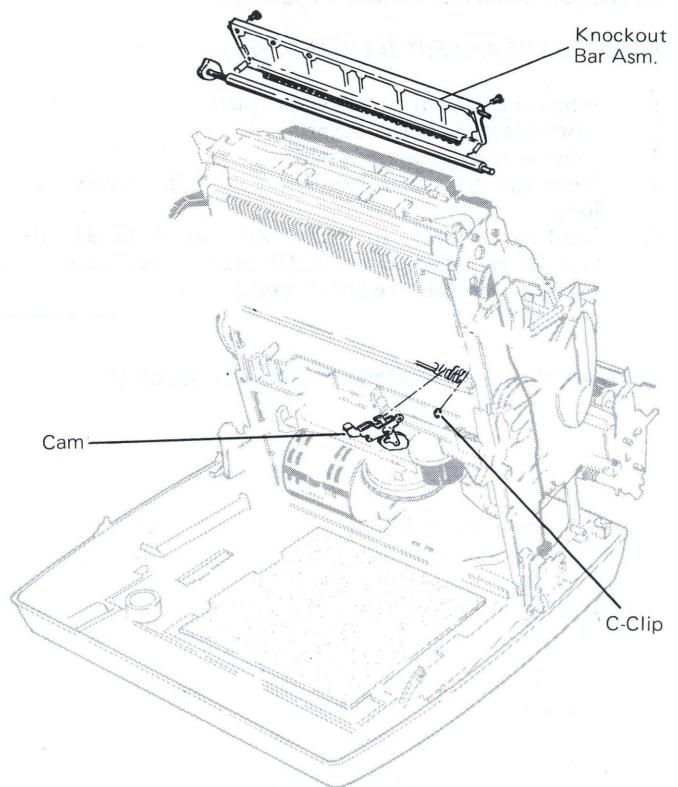

Figure 14 – C1, C4 RH Operational Cam Removal
3. Remove the knockout bar assembly (Figure 14).